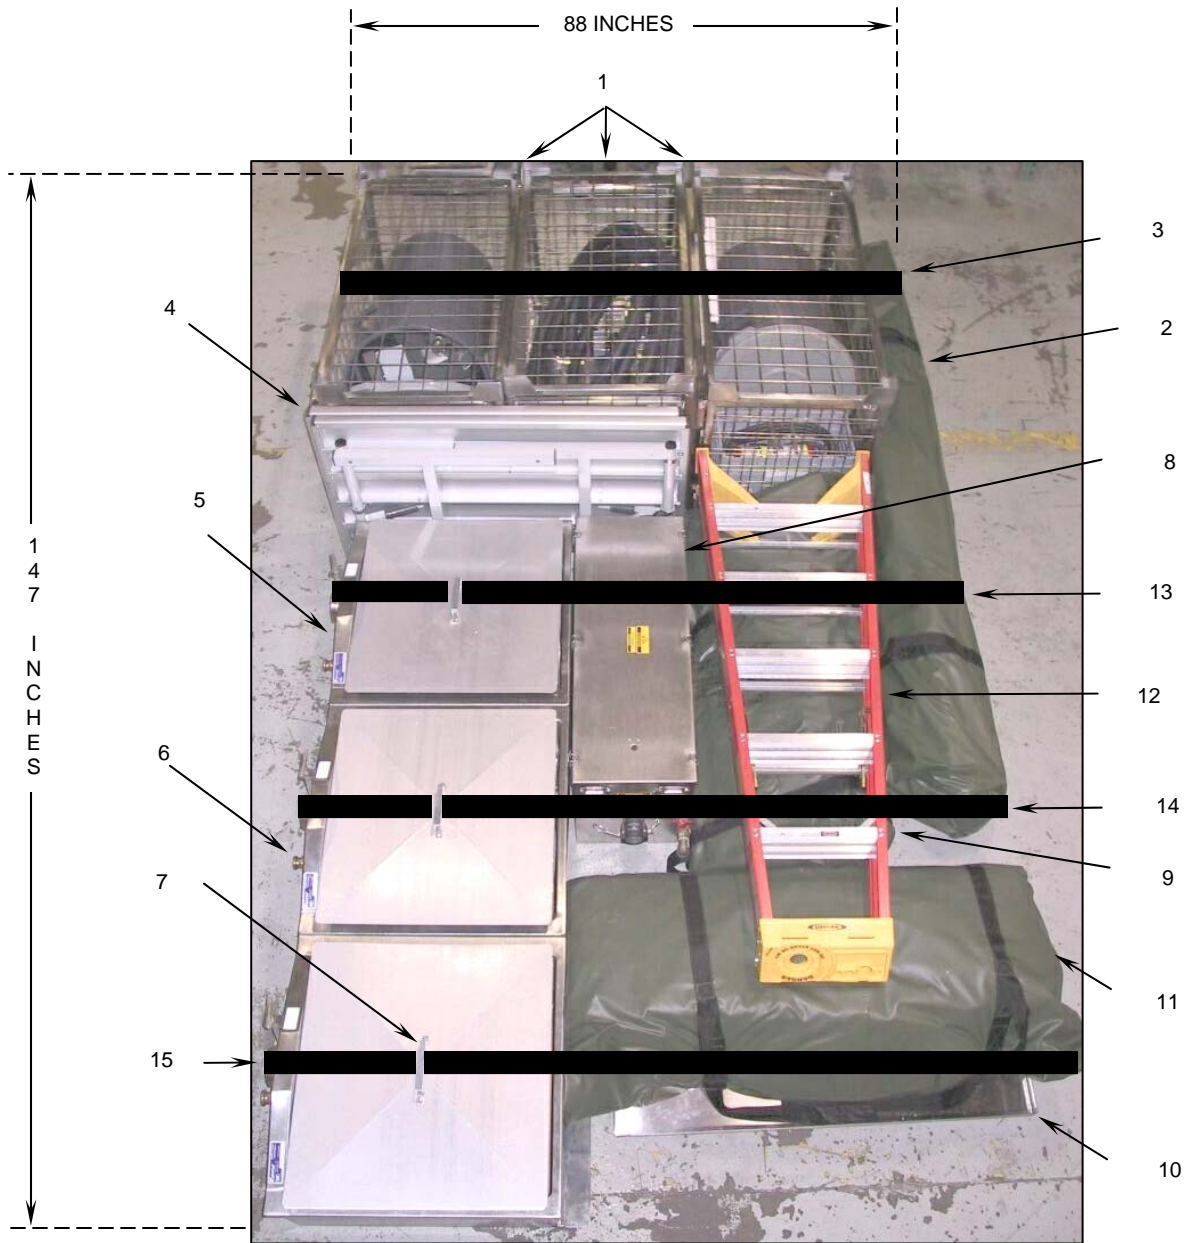

Figure 49. FSC-2 Transport Vehicle Loading Layout.
- a. Load the three packed storage rack assemblies (**Figure 49, Item 1**) side-by-side in the forward most point of the vehicle bed and as far over to the driver's side of the bed as possible.
- b. Load the tent poles inside their storage bag (**Figure 49, Item 2**) next to the storage rack assembly at the passenger side of the vehicle bed.
- c. Secure the storage rack assemblies and the tent poles in their storage bag with a strap (**Figure 49, Item 3**) from one side of the vehicle to the other.
- d. Load the 2 work tables (**Figure 49, Item 4**) on edge, with the table tops facing each other, in front of the storage rack assemblies and as far over to the driver's side of the bed as possible.
- e. Load the three packed sink assemblies (**Figure 49, Item 5**) side-by-side along the driver's side of the vehicle bed with the drain valves (**Figure 49, Item 6**) facing the side of the vehicle and the sink cover handles (**Figure 49, Item 7**) oriented parallel to the side of the vehicle.
- f. Load the grease separator (**Figure 49, Item 8**) next to the first two packed sink assemblies with the grease separator outlet/drain fittings pointing toward the work tables and the inlet fitting and grease drain valve pointing toward the rear of the vehicle.
- g. Load one of the tent fabric sections in its storage bag (**Figure 49, Item 9**) parallel to the grease separator, between the grease separator and the tent poles in the tent pole bag.
- h. Load the drain table (**Figure 49, Item 10**) flat on the bed of the vehicle, with its folded legs down, in front of the grease separator, the tent fabric bag, and the tent pole bag.
- i. Load the second tent fabric section in its storage bag (**Figure 49, Item 11**) on top of the drain table.
- j. Load the step ladder (**Figure 49, Item 12**) on top of the two tent fabric bags with the bottom of the ladder against the end of the right storage rack assembly.
- k. Secure the loaded equipment from one side of the vehicle to the other with three straps (**Figure 49, Item 13**) and (**Figure 49, Item 14**) and (**Figure 49, Item 15**) so that one strap is threaded through the handle on each of the three sink covers.